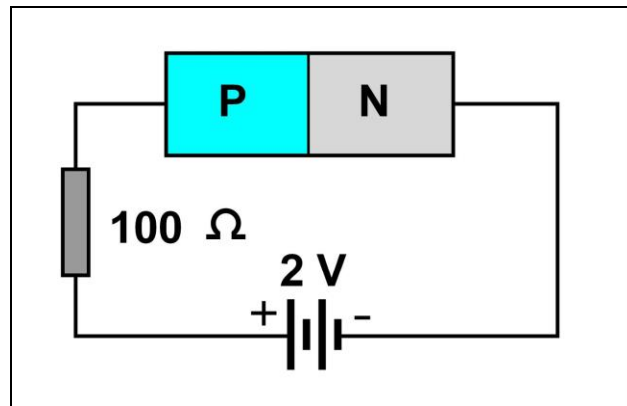

Fig. 3.1-24
1. What is the current in the circuit of Fig. 3.1-24, if the total forward resistance of the Silicon diode is 10Ω ?